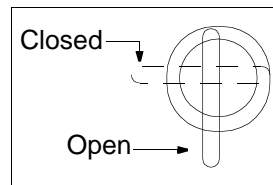

Figure 20
See Figure 20.
2. Make certain the fuel cutoff valve is in the OPEN (vertical) position. See Figure 20.